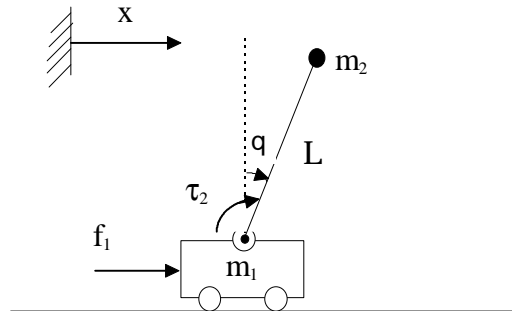

Figure 4: Pole-cart system with two inputs
- Q.4 (a) For the pole-cart system shown in Figure 4, f_1 is the external force on the cart, τ_2 is the torque to drive the pole, m_1 and m_2 are the lumped equivalent masses of the cart and the pole, x and q are the displacements of the cart and the pole, and L is the length of the pole. Assume that the system is in the vertical plane and there is no friction. Derive the dynamic equations using any method you feel comfortable with.